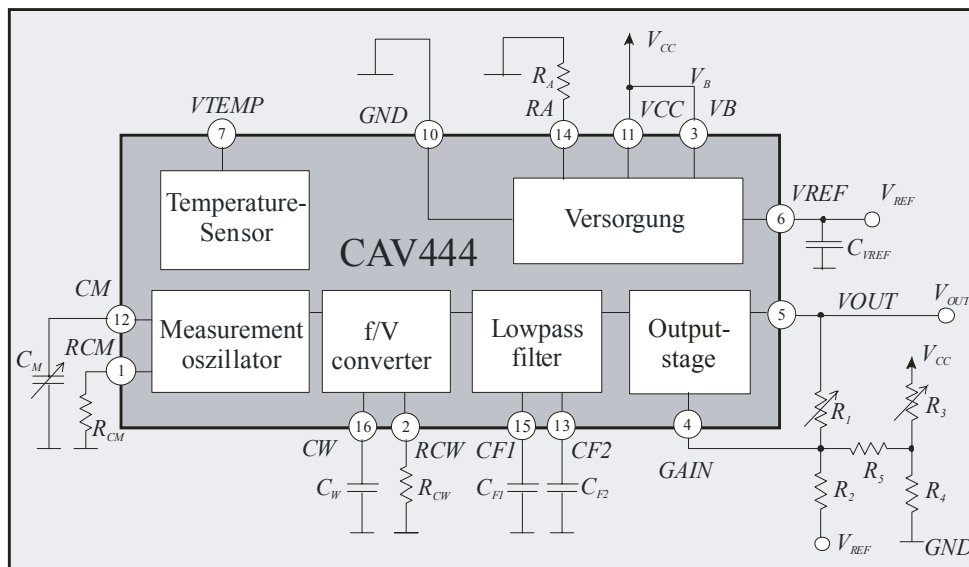

Figure 5: Full circuit with adjustable full-scale output signal and adjustable offset signal
When setting the output signal the adjustability of the offset must be taken into account with the transfer function (5). With regard to *Figure 5*, the transfer function is calculated as:
Example applications are generated by dimensioning the circuit in *Figure 5* with the help of the calibration program Kali_CAV444.xls [1]